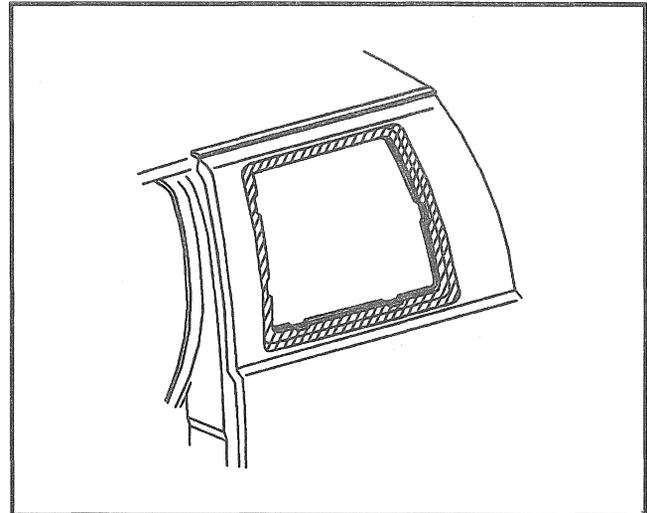

Figure 14—Window Frame
- Apply a light hand pressure to the glass to wet-out the adhesive and to bond the glass to the pinchweld (Figure 14).